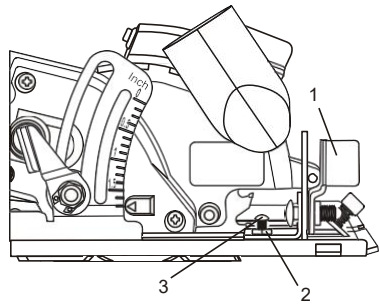

Fig. 4
1. Loosen the bevel locking lever (1) and rotate the sole plate toward the 0° mark as far as it will go and tighten the bevel angle locking lever (Fig 4).
3. If the test cut is not at 90°, turn the zero adjustment lock nut (2) counter clockwise approximately ¼ turn using a 7mm wrench.
4. Use a #2 ⊕ screwdriver to turn the zero bevel adjusting screw (3) in or out until the saw is cutting at 90° when the sole plate is contacting the adjusting screw.